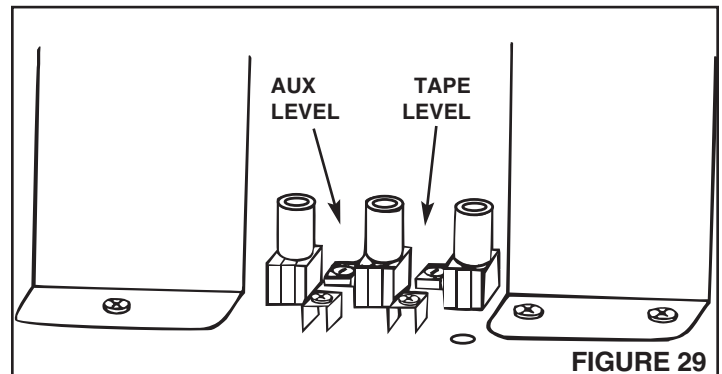

FIGURE 29
5. **Refer to Figure 29.** Using a thin-blade screwdriver, adjust the **TAPE/AUX** control to match the audio level of the external audio source with the FM radio.